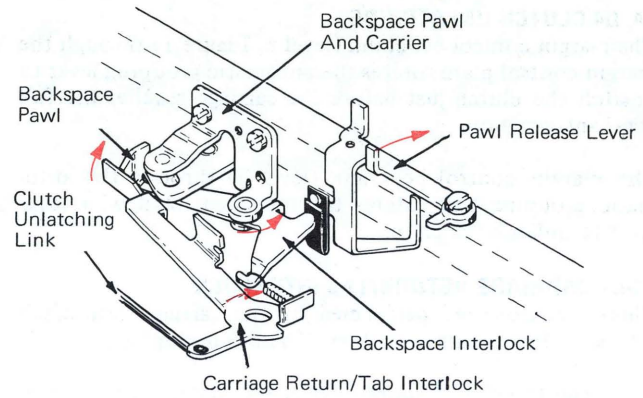

Figure 13 – C1-D1 Backspace Pawl Interlock (Rear View)
- When the backspace mechanisms are at rest, the operation of the carriage return/tab interlock pushes the backspace interlock around the backspace pawl and is free to allow the carriage return clutch to be latched. However, when the backspace mechanism is operated, the backspace pawl's operated position blocks the movement of the backspace interlock (Figure 13). The vertical lug on the C1-D1 backspace interlock blocks the movement of the carriage return/tab interlock which will not allow the carriage return latch to latch. When the carriage return clutch is latched and a backspace operation is started, the backspace pawl will go through the motion; however, it will not engage in the escapement rack teeth because it is prevented from sliding across the slot.